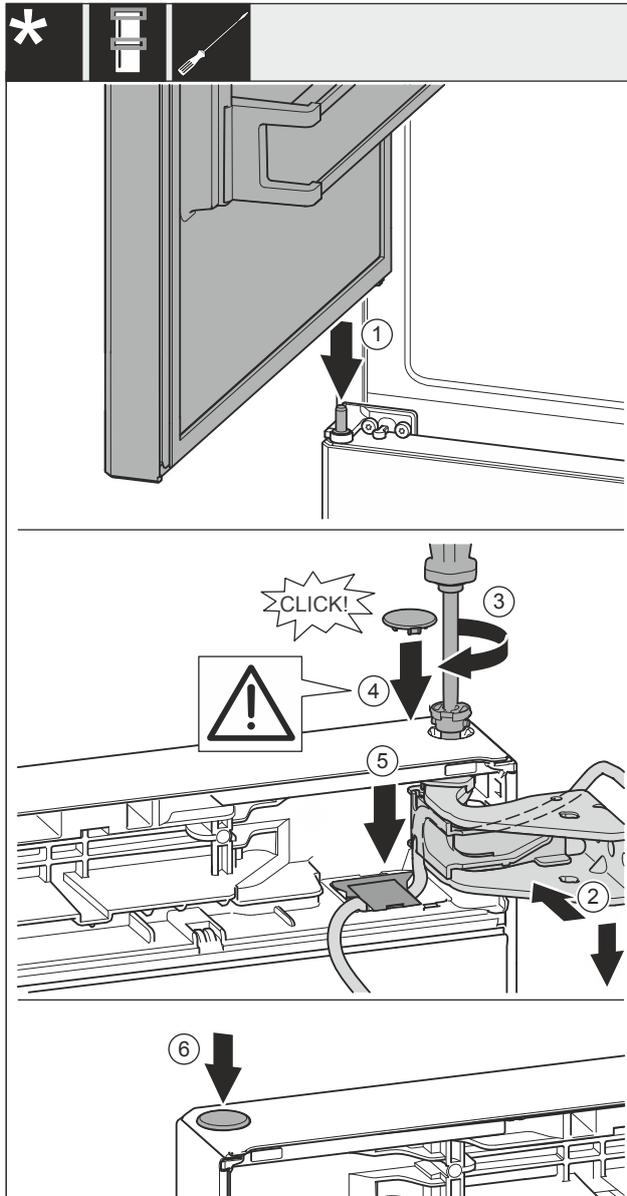

Fig. 51
- ▶ Place the top door on the centre bearing bolt Fig. 51 (1).
- ▶ Align the top door with the opening in the swap bearing block Fig. 51 (2).
- ▶ Insert the bolt Fig. 51 (3) and use screwdriver to tighten it.
- ▶ Insert the cover Fig. 51 (4).
- ▶ Check that the cover Fig. 51 (4) is resting on the door.
- ▶ Insert the cover Fig. 51 (5) and push down until it engages.
- ▶ Insert the cover Fig. 51 (6).